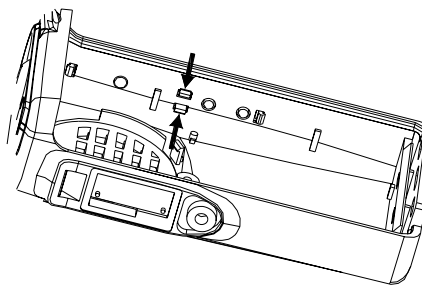

Fig.6
8. Disassemble PTT key: Push the tab on PTT out of the hole on the case to disassemble PTT key. (See fig.6)